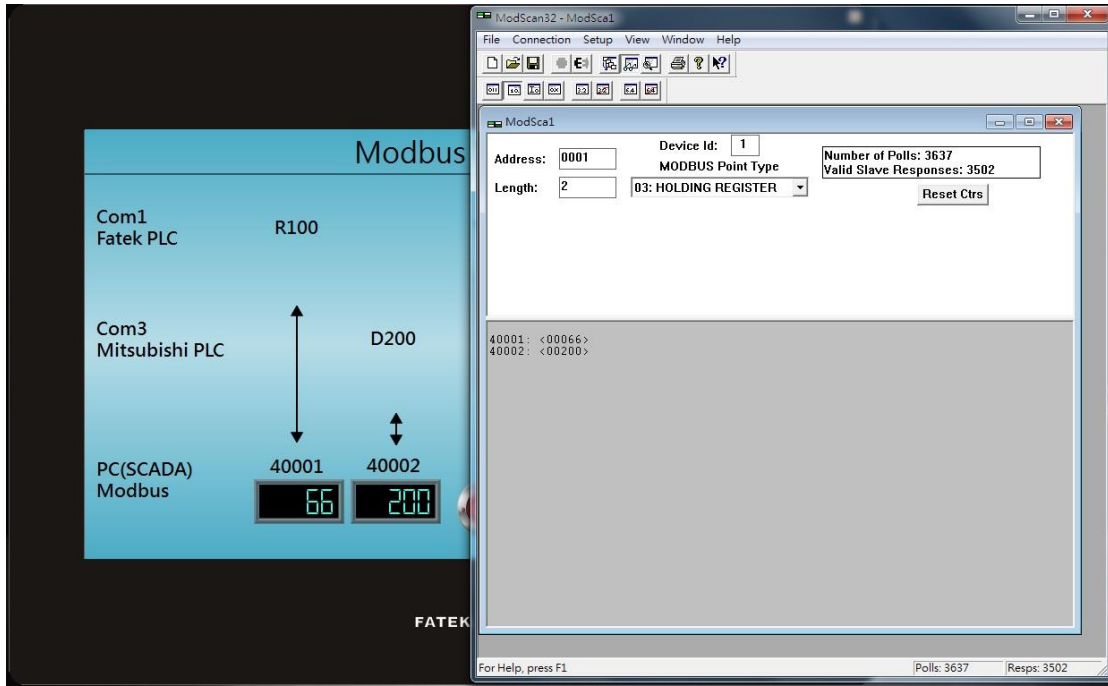

Figure 351 Results of the Gateway Server
Step 5: As shown in Figure 351, the FATEK PLC R100 and Y0 addresses as well as the Mistubishi D200 and Y1 address can be viewed. Through the SCADA (or modScan) software, the Modbus address of 4x1, 4x2, 0x1, and 0x2 can be controlled.